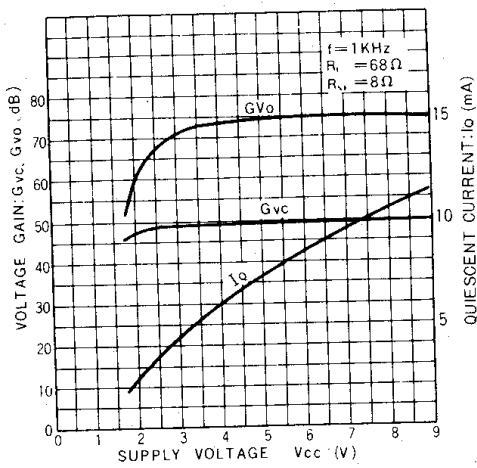

Fig. 4 Voltage gain and quiescent current vs. supply voltage
2. Excellent low-voltage characteristics (starting voltage < 2V) (see Fig. 4)